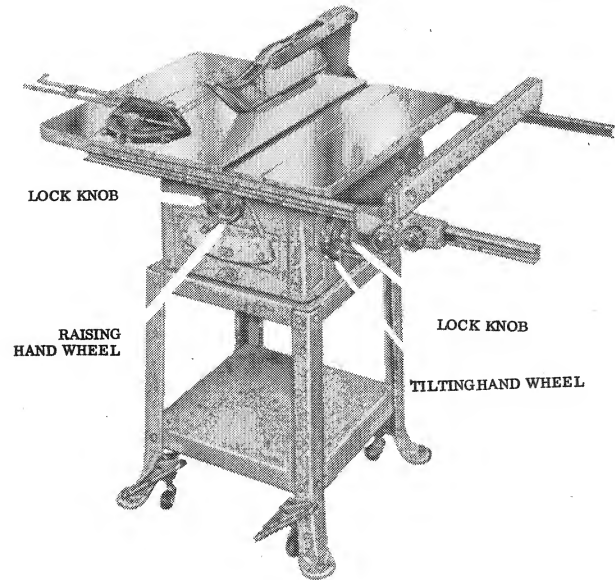

FIG. 1
2. Raise saw blade to proper height by loosening lock knob and turning Raising Handwheel. See Fig. 1 then tighten lock knob.
To raise or lower the saw blade, loosen lock knob and turn raising handwheel Fig. 1. When desired height is obtained, tighten lock knob. We suggest raising the blade above $\frac{1}{8}$ " to $\frac{1}{4}$ " above the top surface of the material being cut. The blade can be raised to a maximum of $2\frac{3}{4}$ " and a positive-stop built right into the saw prevents you from raising the blade beyond this point and damaging the blade and table insert.
To tilt the saw blade, loosen lock knob and turn tilting handwheel. When desired angle is obtained, tighten lock knob, Fig. 1.